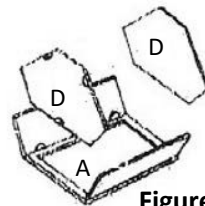

Figure 4
**3. Installing the Top and Bottom (Figure 4):** Gently spread side panels and insert top & bottom panels (D) into the grooves of side panels (B1 & B2) until it touches the face frame (A). Well align it and lock each cam.